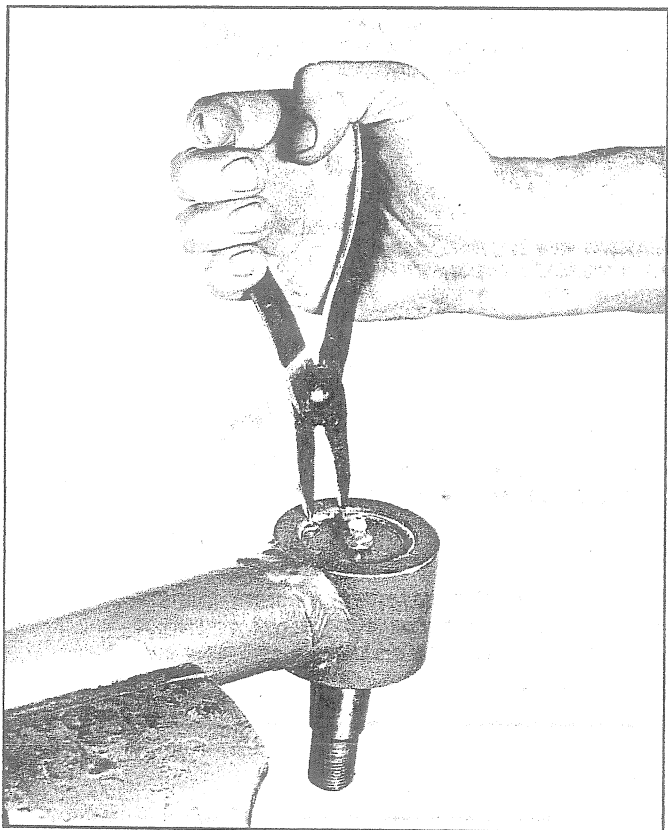

Fig. 73 - Removing Retaining Ring
1. Remove retaining ring as shown in Fig. 73, then remove ball stud retaining plate.